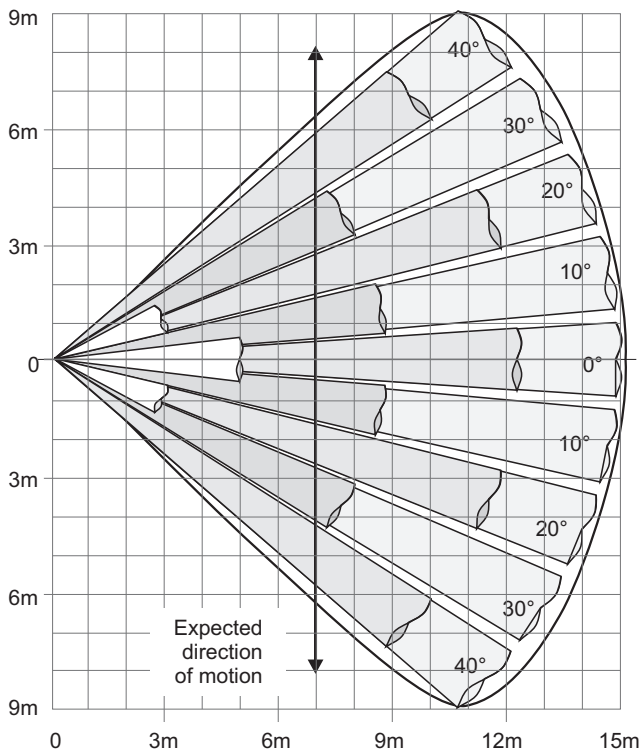

Fig. 3
- * Maximum sensitivity is achieved when mounted crosswise to the horizontal detection zones of the PIR sensors. Therefore, select a mounting site that runs crosswise to the expected direction of motion (see Fig. 3).